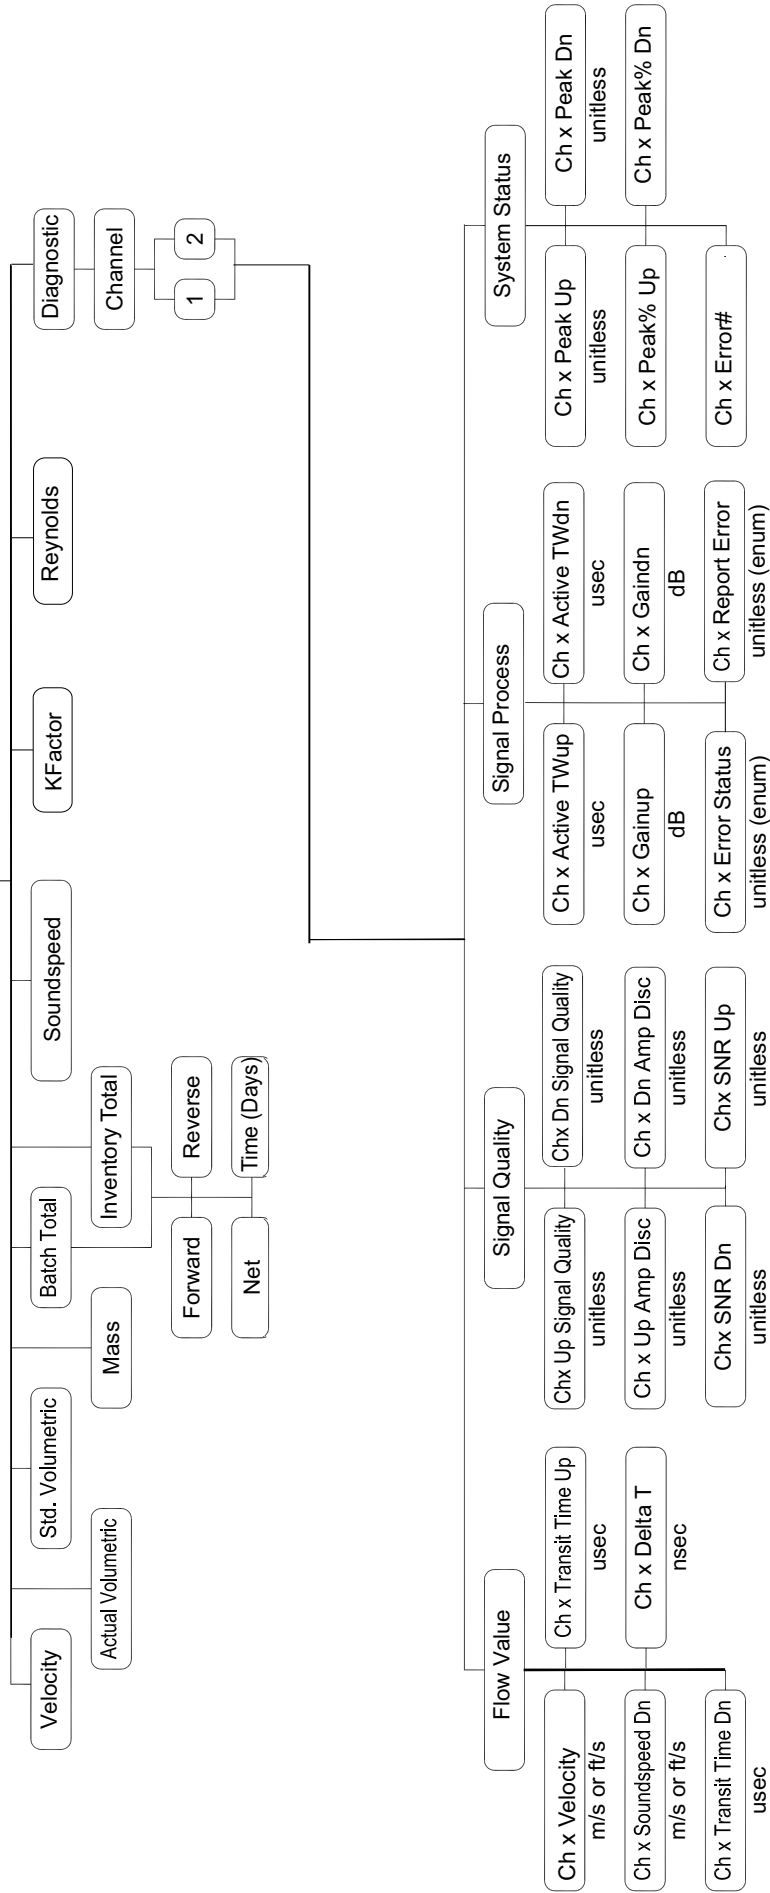

Figure 29: Display Measurement Menu Map
- Figure 29, “Display Measurement Menu Map,” on page 91